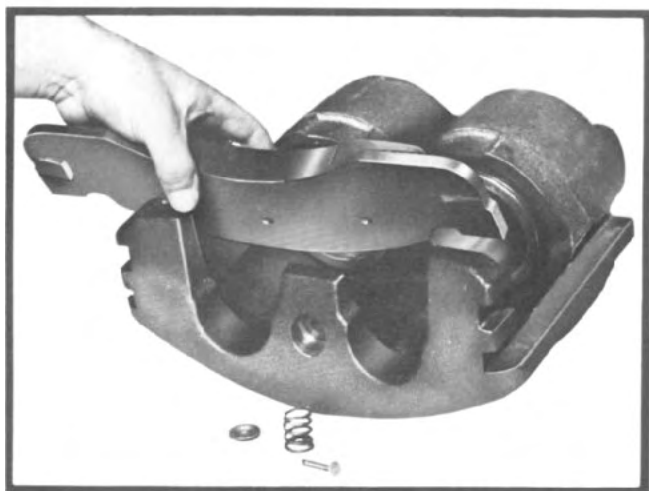

Fig. 25—Remove outer shoe and lining assembly.
(3) Remove outer shoe and lining assembly. (Fig. 25)